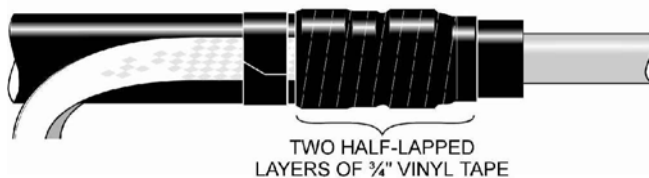

FIGURE 5
STEP 16: TIGHTLY WRAP TWO HALF-LAPPED LAYERS OF 3/4" VINYL TAPE, SEE TABLE 4 , AROUND THE CONSTANT TENSION SPRING, THE EXPOSED LC SHIELD, AND THE MASTIC, TO THE EDGE OF THE COLOR CODING TAPE. SEE FIGURE 5.